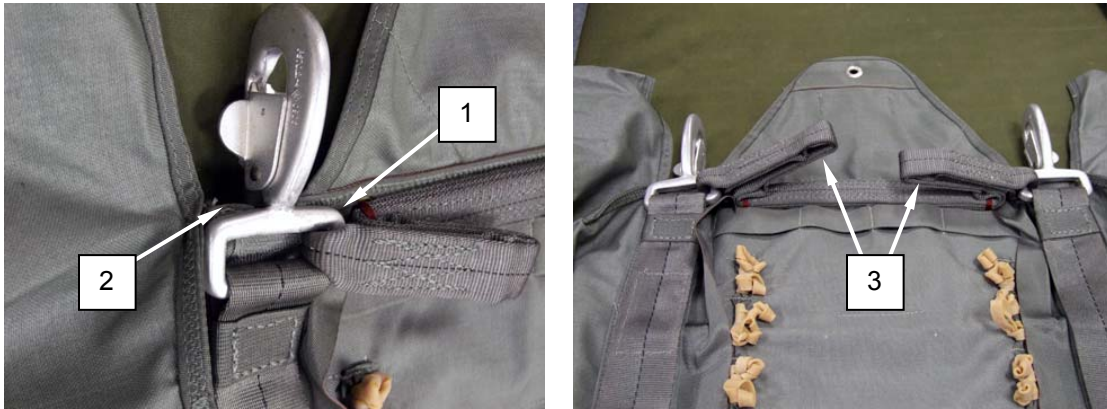

Figure 65. Aligning Top Bar of Snap Hook with Binding Tape and S-Folding Excess Spreader Bar.
6. Place the pile tape on the riser to the hook tape on the pack tray. Ensure that the top bar (Figure 65, Item 1) of each snap hook aligns with the top of the binding tape (Figure 65, Item 2). S-fold the excess of the spreader bar (Figure 65, Item 3) back onto itself.